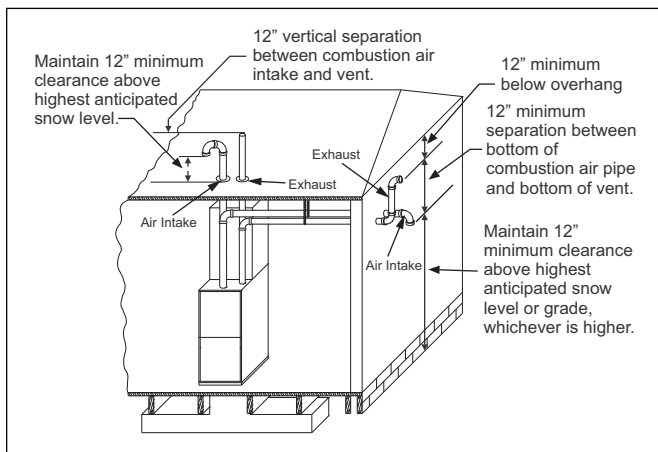

Figure 26 Termination Configuration - 2 Pipe
- Direct vent systems must be installed so the vent and the combustion air pipes terminate in the same atmospheric zone. Refer to Figures 26 or 27.